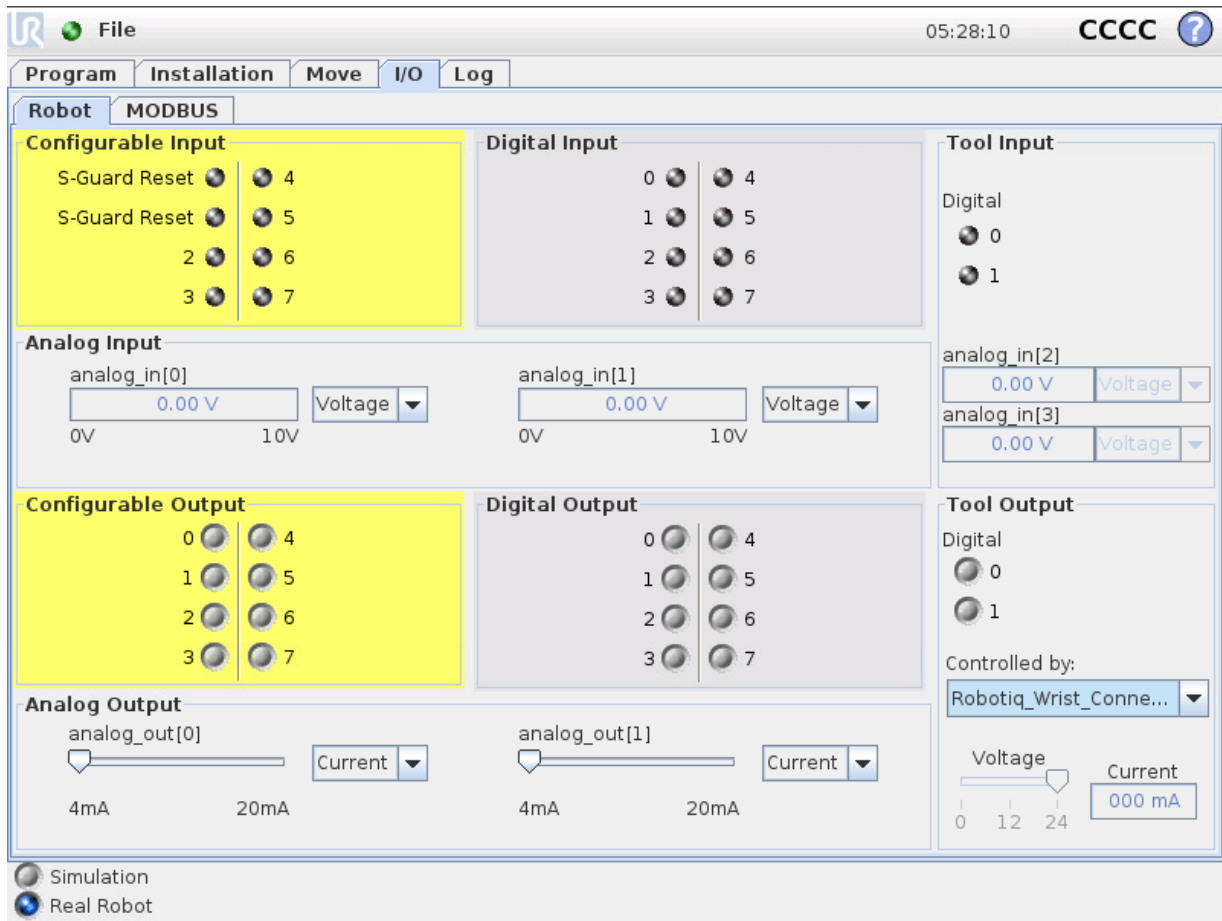

Figure 3.4.1.1 : Changing the Voltage at the Tool Flange
5. In the I/O Tab, go in the **Tool Output** section. In the Controlled by dropdown menu, select to **Robotiq_Wrist_Connection**. The voltage will automatically change to 24V, as shown in Figure 3.4.1.1.
8. Delete any Gripper URCaps on the robot. Install the URCaps on the UR robot. When the gripper will be connected to robot, the gripper firmware can be undapted if needed. In the **I/O** Tab, go in the **Tool Output** section. In the Controlled by dropdown menu, select to **Robotiq_Wrist_Connection**. The voltage will automatically change to 24V, as shown in Figure 3.4.1.1.